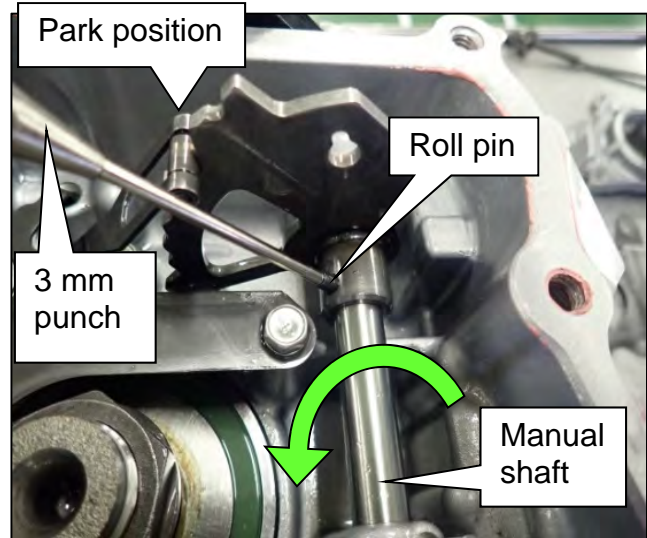
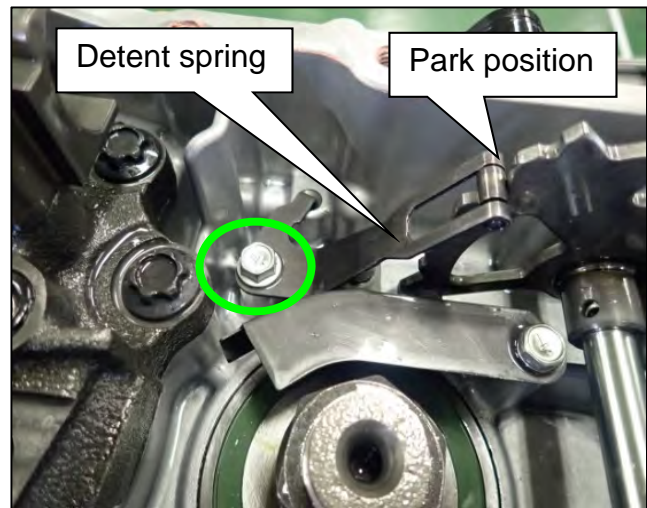

Figure 86
Figure 87
60. Rotate the manual shaft (Figure 86) until it stops in the Park position (Figure 87).
62. Remove the detent spring bolt circled in green in Figure 87, and then remove the detent spring from the CVT case.